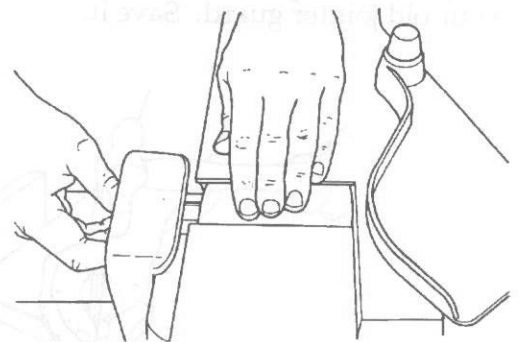

Fig. 3
6. Again grasp the jointer's power coupler while you insert the cardboard into the cutter opening, as shown in Fig. 3. Use a thin stick to help you tuck the cardboard into the opening.